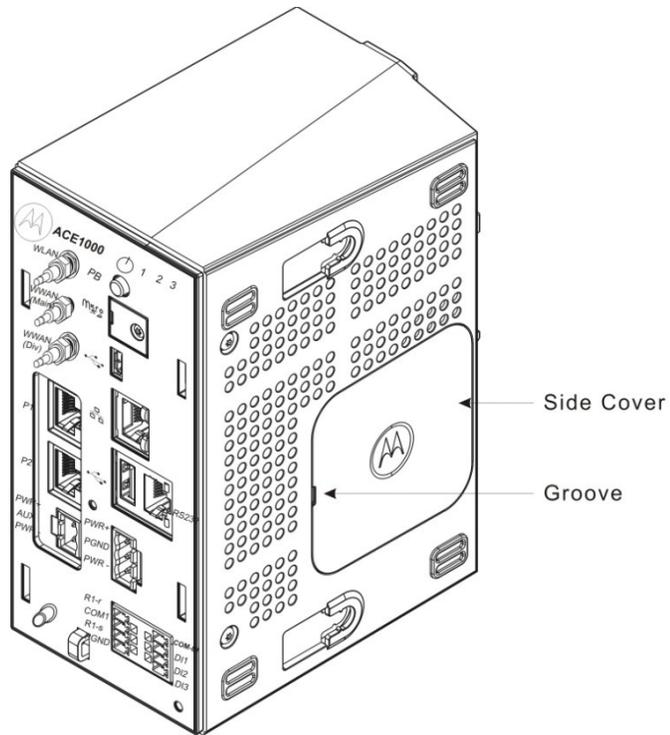

Figure 2-6 ACE1000 CPU Side Cover
- 2) Click the 90° bent end of the 10-pin I/O connector cable (#30013144001) into the RJ50 connector on the right side of the CPU. See Figure 2-6.
- 3) Click the other end of the I/O 10-pin connector cable into the RJ50 connector on the left side of the I/O expansion module. See Figure 2-6.